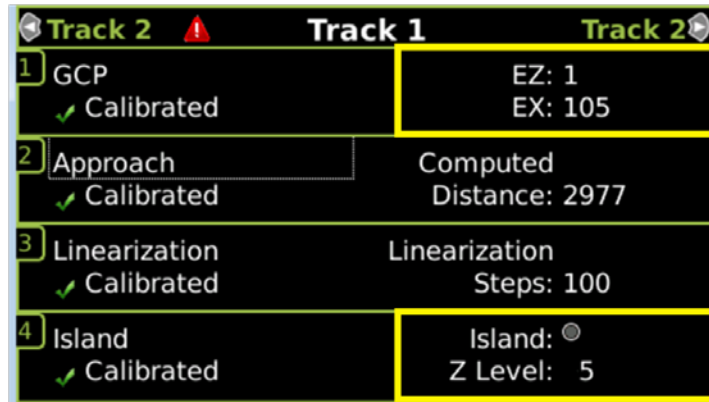

Figure 10 Island Calibration Window
Step 6	Following railroad policies concerning the use of jumper wires. Place a jumper wire across the RCV1 and RCV2 receiver wires at the main terminal board and verify the EZ value is less than or equal to 5. If the EZ value is greater than 5 and the jumper is confirmed to be securely connected, use additional jumper wires in parallel until an EZ less than or equal to 5 is achieved. The crossing should activate. Note the Island Z value with the jumper applied. See Figure 10.